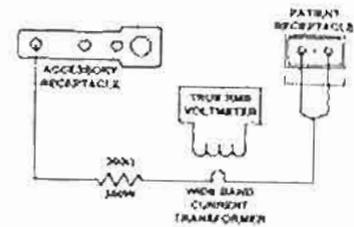

Figure 3-5. Monopolar output test circuit.
- Set up a test circuit as depicted in figure 3-5.